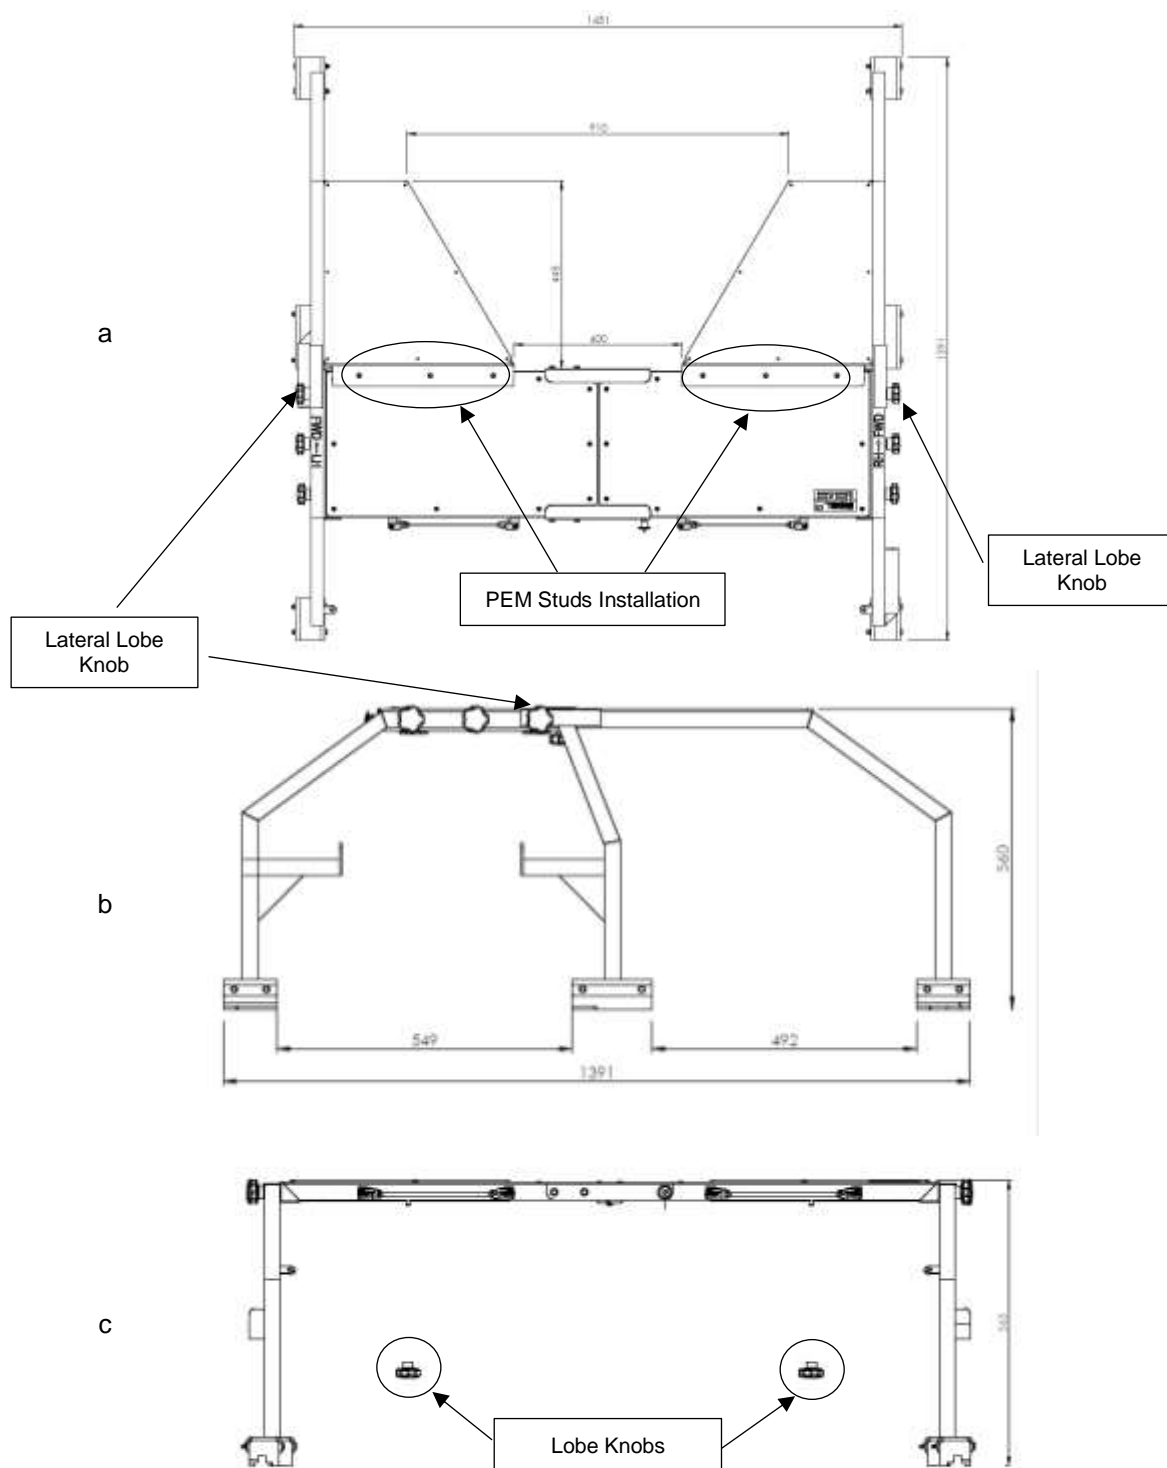

Figure 9-1 – Installation Scheme
The 3G1200G01131 Upper Deck Maintenance Step for OPLS, is developed to be used with PN 3G1200G00431, Upper Deck Maintenance Step Tool, during the Main Rotor area maintenance, Ref. Figure 9-1.
2. Insert the HFHS-0616-32 PEM Studs, into the dedicated holes on the Upper Deck Maintenance Step; Ref Figure 9-1- a,
3. Fix the PEM Studs using the Lobe Knobs: Ref. Figure 9-1 – c.
4. Fix the structures using the lateral Lobe Knobs, present on the PN 3G1200G00431, as showed in the Ref. Figure 9-1 – a, Figure 9-1 – b.